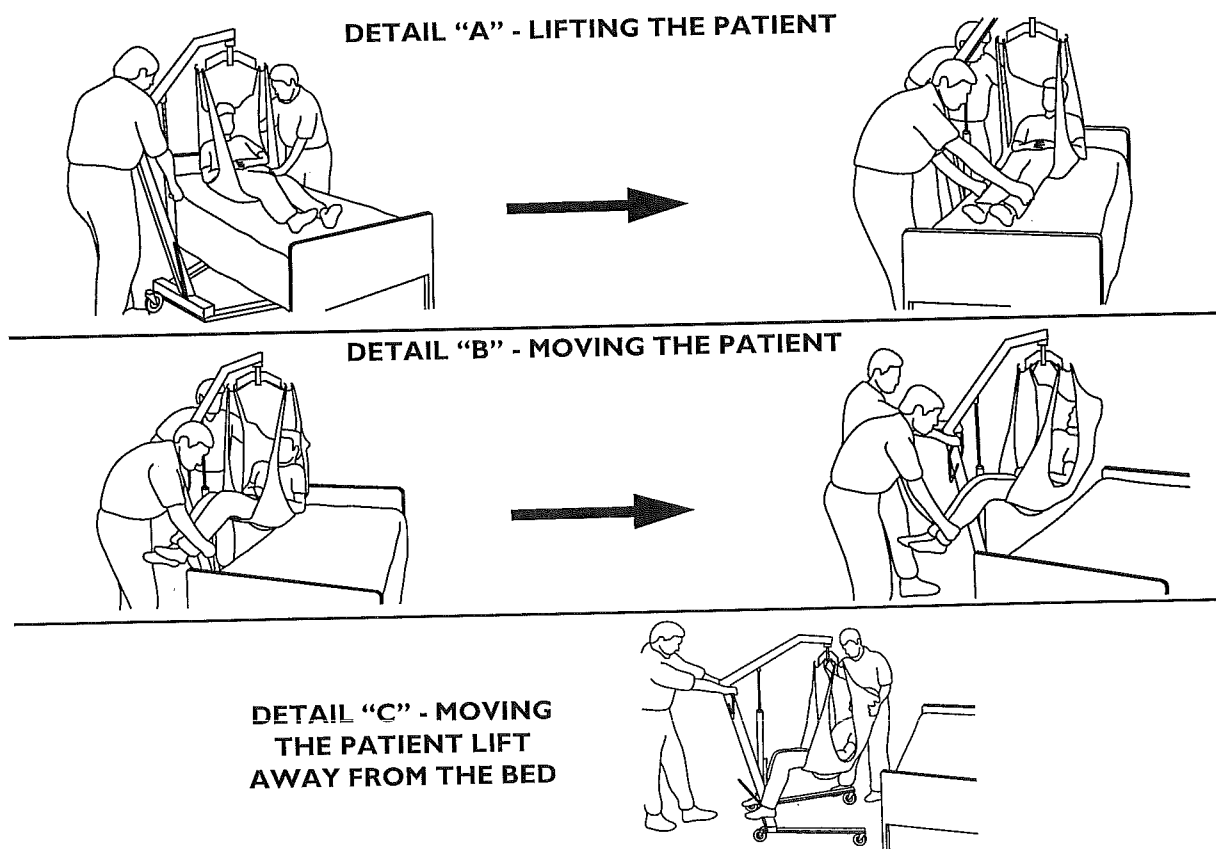

FIGURE 4.3 Lifting/Moving the Patient
NOTE: For this procedure, refer to FIGURE 4.3 on page 28.
2. When the patient is lifted from the bed (with the patient's head supported by the sling and/or an assistant), he/she will be raised to a sitting position (Detail "A", FIGURE 4.3).
3. When the patient is clear of the bed surface, swing their feet off the bed (Detail "B", FIGURE 4.3).
5. When moving the patient lift away from the bed, turn the patient so that he/she faces assistant operating the patient lift (Detail "C", FIGURE 4.3).